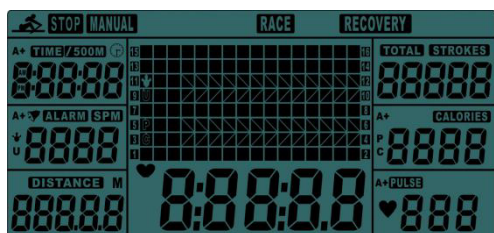
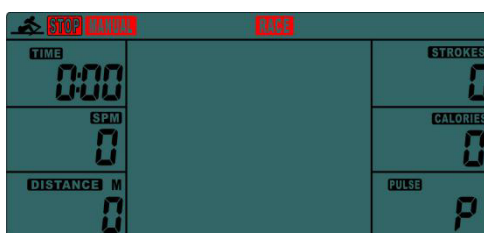

Fig.1
Fig.2
1. Install 2 PCS AA batteries → one long beep for 2 seconds → in the meanwhile, segment test for 2 seconds (Fig.1). Then the console will enter into workout mode (Fig 2).